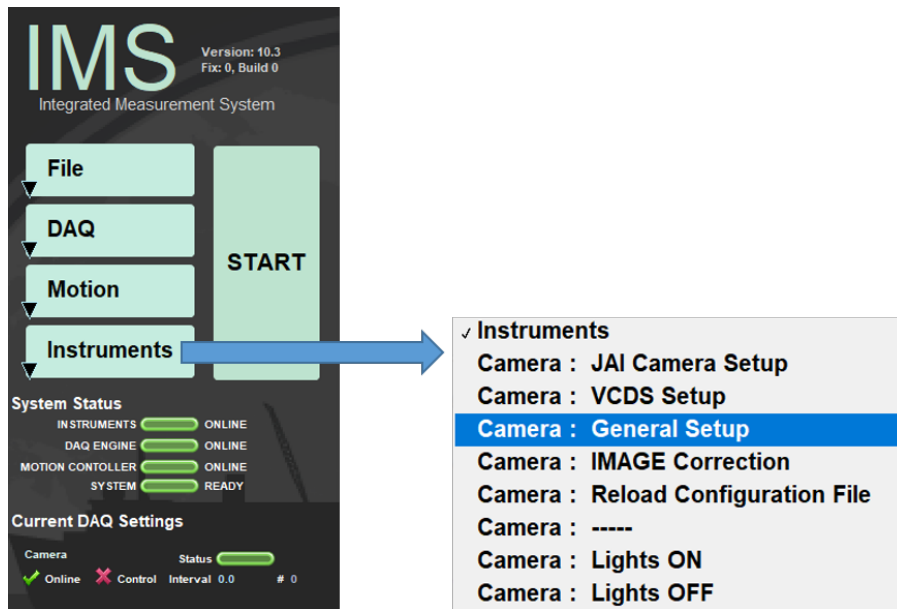

Figure 39. Select JAI Camera Setup Parameters window
1. Go to **Instruments > Camera: General Setup** (Figure 39). The JAI Camera Setup Parameters window will appear (Figure 39).